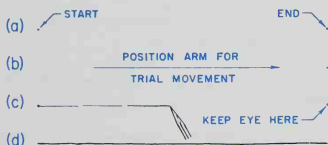

Fig. 2-1. Steps in sketching horizontal lines.
1. Locate the starting and ending points of the line, Fig. 2-1 (a).
2. Make several trial movements to position arm, take short strokes from left to right (left handers right to left) keeping eye on end point, Fig. 2-1 (b).
3. Sketch short light lines at first, Fig. 2-1 (c) (no fuzzy scratches). This will help you control the direction of the line. The line appears as broken sections in the construction stage.
4. Darken the line using one continuous stroke, Fig. 2-1 (d). To do this, let your eyes lead your pencil along the light construction line.